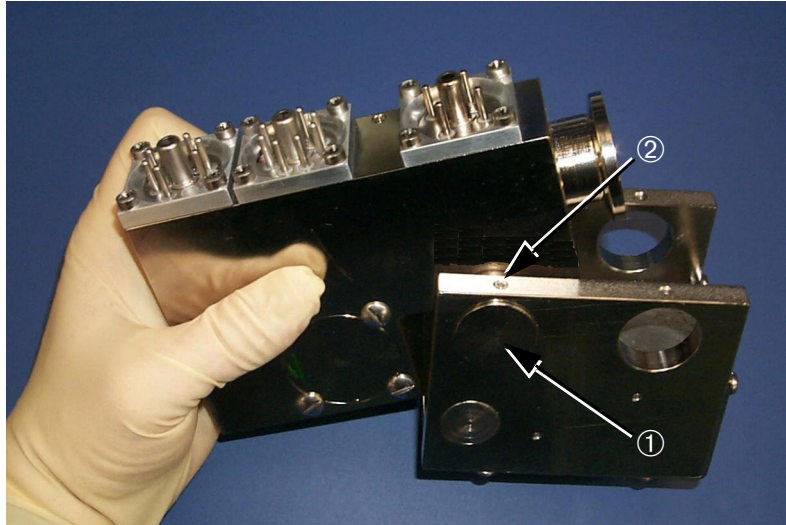

Figure 5-8 Allen-head Screws
If the magnet assembly does not slide off easily, it may be necessary to loosen the tuning magnets ① by backing out the allen-head set screws ② located on both sides of the assembly (Figure 5-8). Do not remove the set screws and tuning magnets completely.